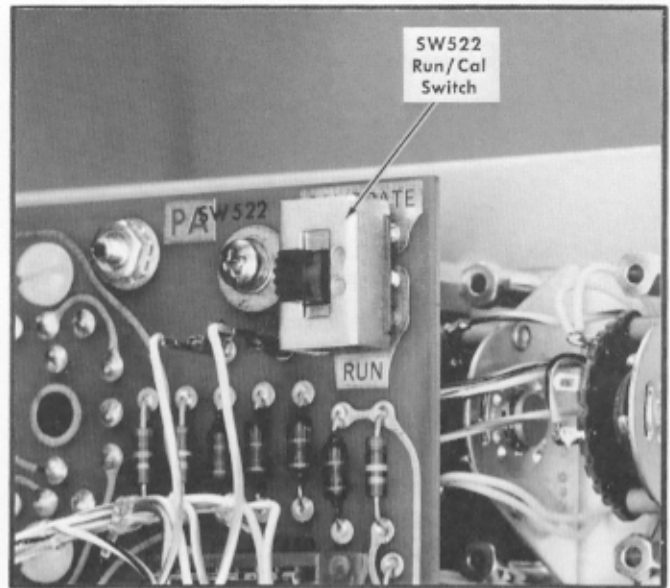

Fig. 7-8. Location of Run/Calibrate switch on the Counter circuit card.
- Set the Type 230 RUN/Calibrate switch to Calibrate (located on the counter circuit board; Fig. 7-8).